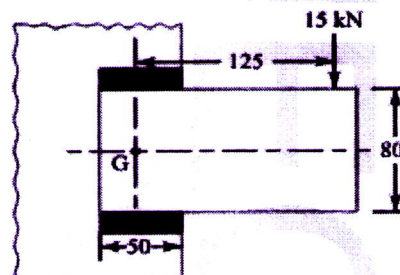

Fig. 4
- 19 a) Write a short note on different types of welded joint (4)
- b) A bracket is welded to its support as shown in Fig.4 (All dimensions are in mm). (10)